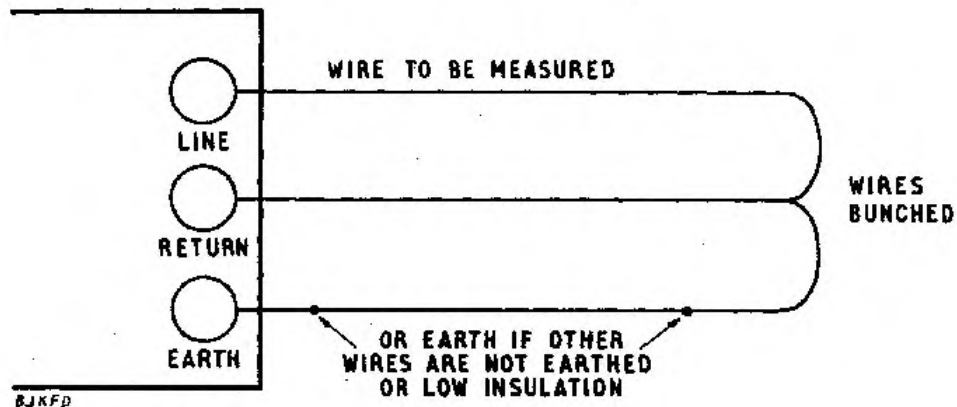

FIG 4 - SINGLE WIRE RESISTANCE (3-WIRE OR 2-WIRE AND EARTH)
5.2 Single wire resistance (see Fig 4) Bunch the wire to be measured and two good conductors at the far end. An earth may be used in place of one of the two good conductors provided that the wire to be measured is not faulty, ie low insulation or in contact with earth. Connect the wire to be measured to the LINE terminal, and the other two conductors to the RETURN and EARTH terminals respectively.